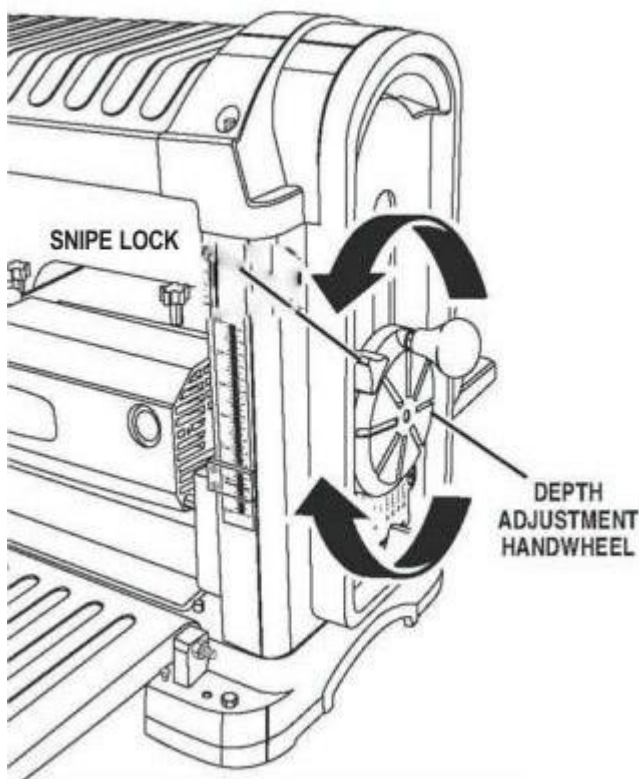

FIG 4
1. Unlock snipe lock by moving lever to the left. SEE FIG 4.